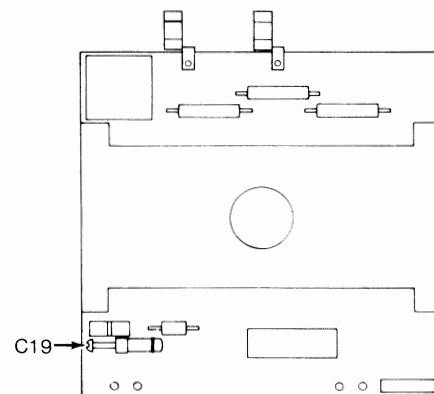

Figure 3-6. Small Circuit Board Assembly (RMS 3030)
13. Adjust trimming capacitor C19, (H.F. Adj.) as identified in Figure 3-6, until Digital Display reads number equal to 1.900 plus the error voltage.